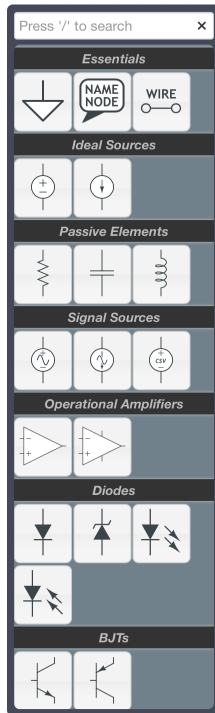

Figure 11. left panel
1. Select the parts we need in the left panel (Figure 11.).